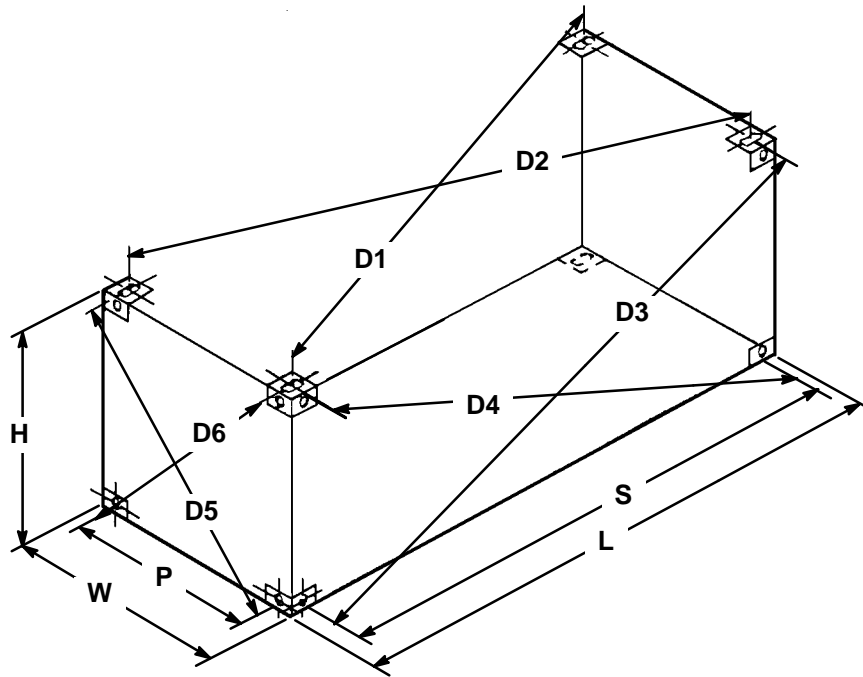

Figure 9-3. Configuration Measuring Points.
(2) *Overall Configuration.* Check for any distortion of the overall configuration great enough to preclude proper engagement of handling/lifting equipment, mounting and securing on chassis or vehicle, or insertion into the cell of a ship. If container alignment is in question, use a measuring tape to check dimensions in accordance with Figure 9-3 and Table 9-2.